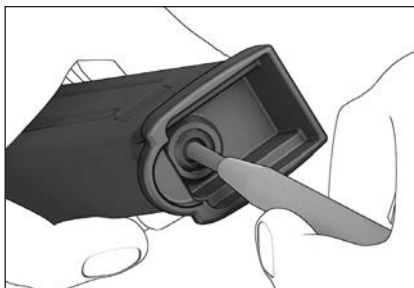

Figure 29
1. Using a punch, depress the locking insert located in the floorplate and hold it there (see Figure 29).